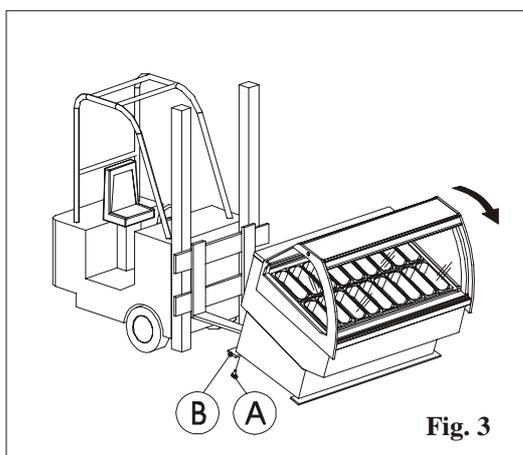

Fig. 3
- Lift the cabinet using the pallets as shown in figure 3.
- Unscrew the screws that anchor the lists to the base (fig.3 pos. A) and remove the base (fig.3 pos. B).